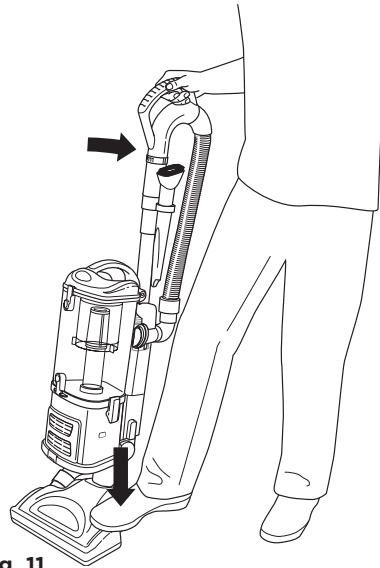

Fig. 11
- 2 To activate the brushroll, step lightly on the floor nozzle, then tilt the handle back. **(Fig. 11)**